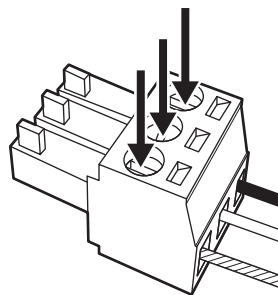

Fig. 2
- 2) Tighten the screws of the Plug for 3-pin 3.5 mm detachable terminal block securely with a screwdriver and fix the lead wires. (Fig. 2)**